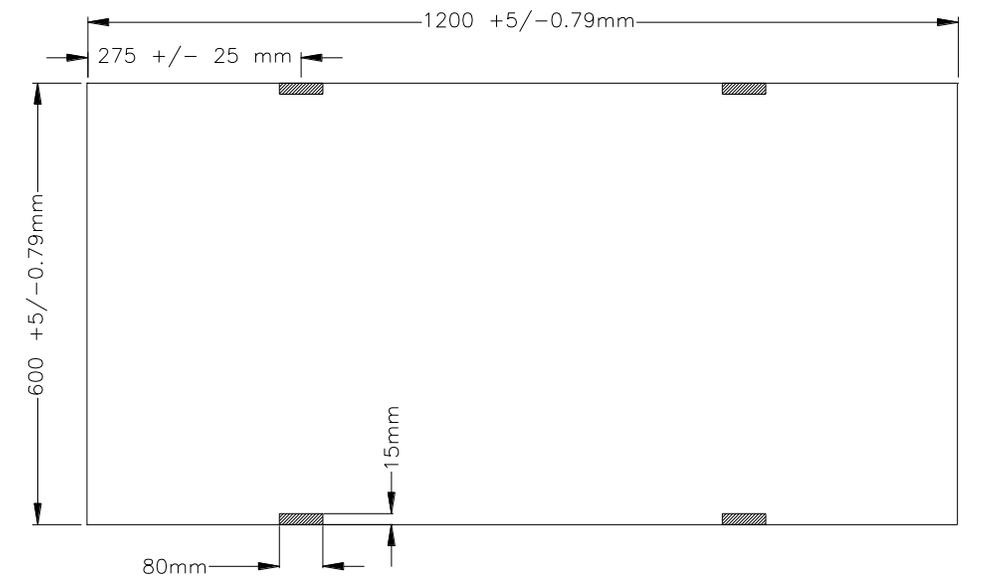
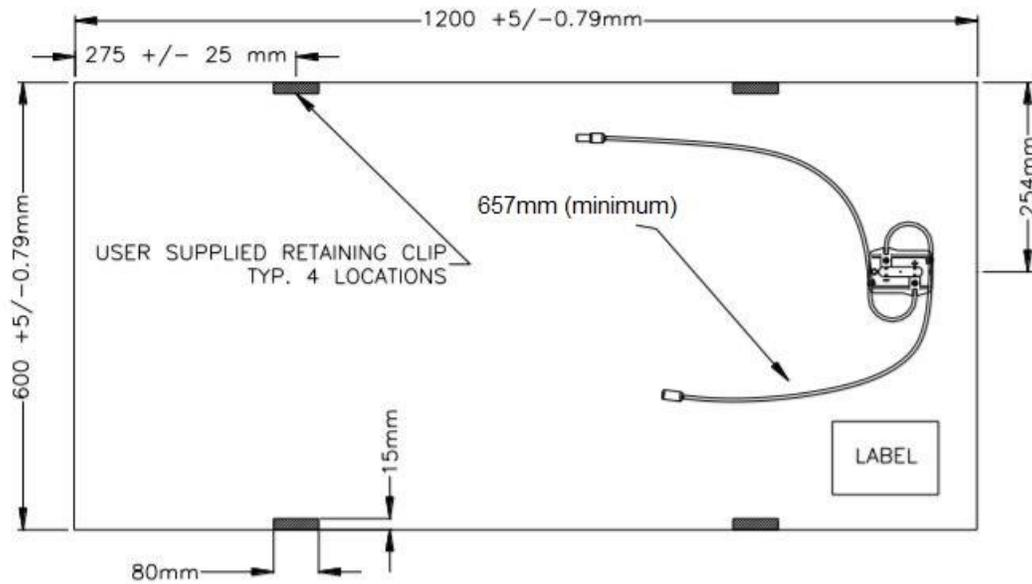

Figure 1. Recommended location of retaining clips (front side)
Figure 2. Recommended Location of Retaining Clips (back side)
The module shall be secured to the support structure with clips (or equivalent) located at four (4) symmetrical points. The location of the clips must be along the 1200mm [47.24 inch] length of the module, and the center point of the clip IDEALLY SHOULD be located between 250mm and 300mm [9.84 inches and 11.81 inches] from the module corner. Figure 1 and Figure 2 depict the modules' retaining clips locations. Other alternate spacings such as  $250 \pm 25$  have been successfully tested through the requirements in this document and require specific approval. For such systems, please see the Clip and Mounting System Approval and the Mounting Clip Design Approval sections below.